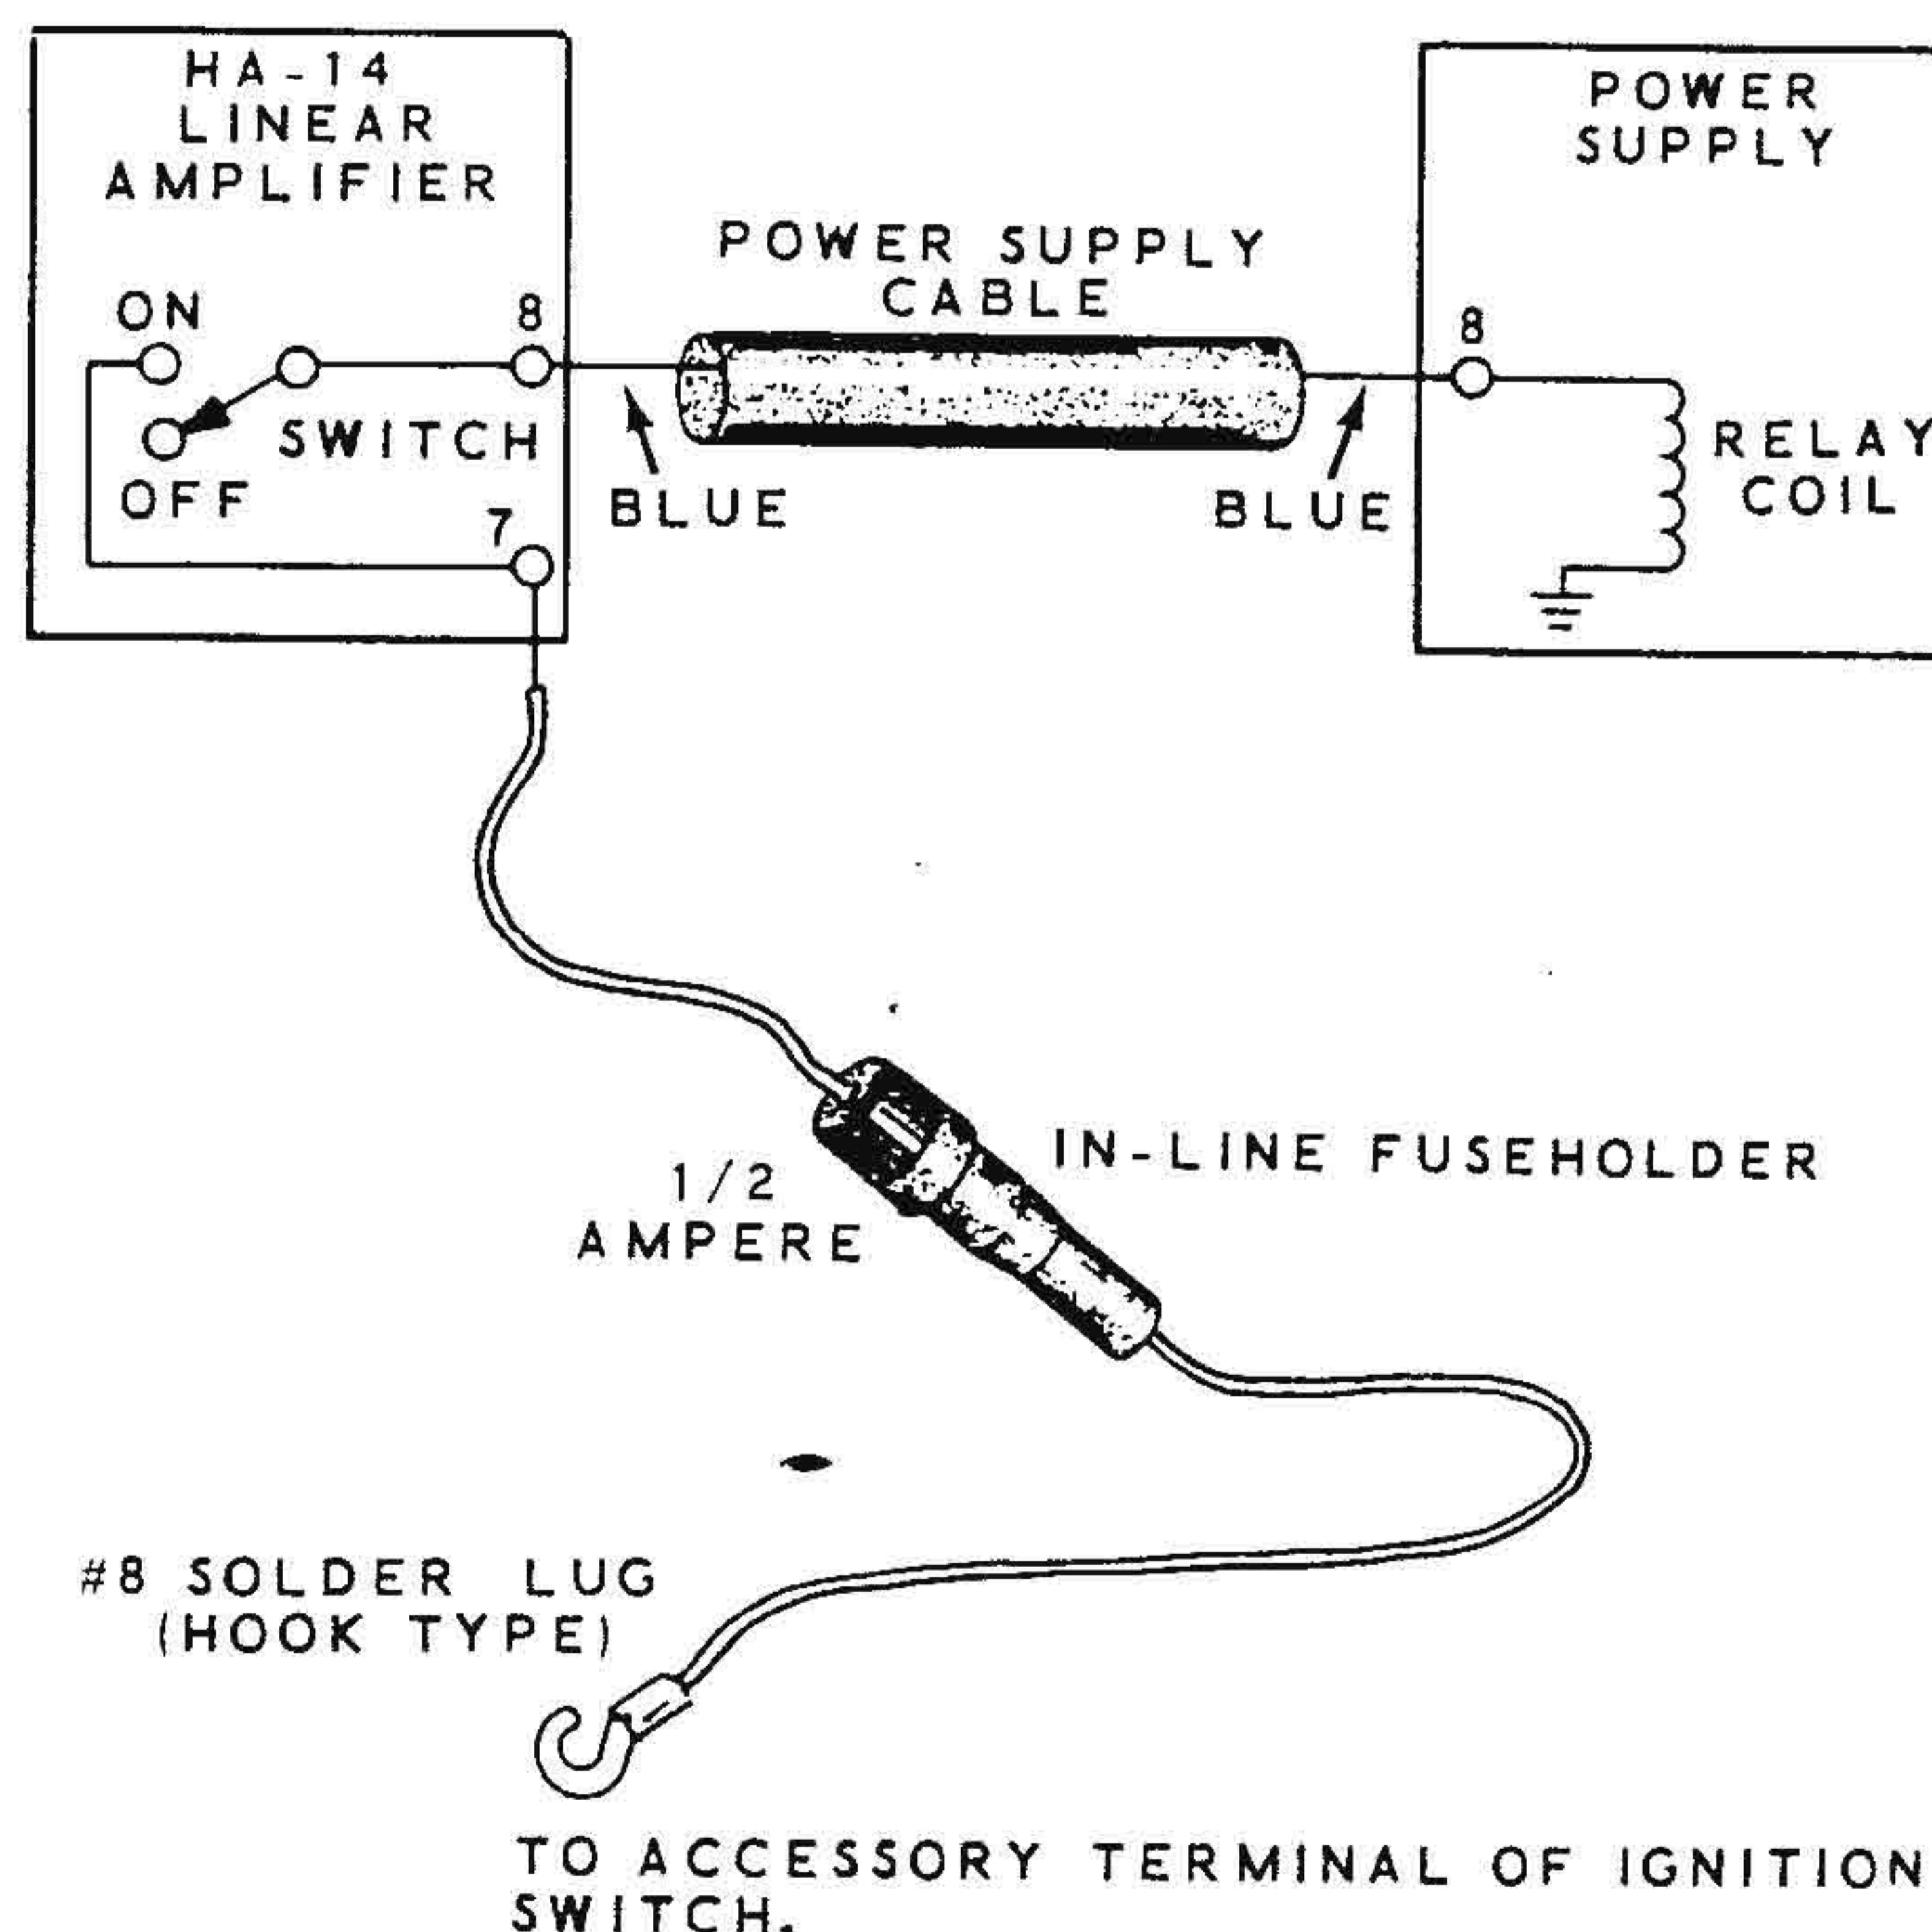

Figure 4
- () The in-line fuseholder is wired to the free end of the 8-wire cable. The wiring of this end of the cable is covered in the HA-14 Linear Amplifier Manual. Figure 4 shows how the switching circuit of the Power Supply is wired to the Linear Amplifier and through the fuseholder to the ignition switch.